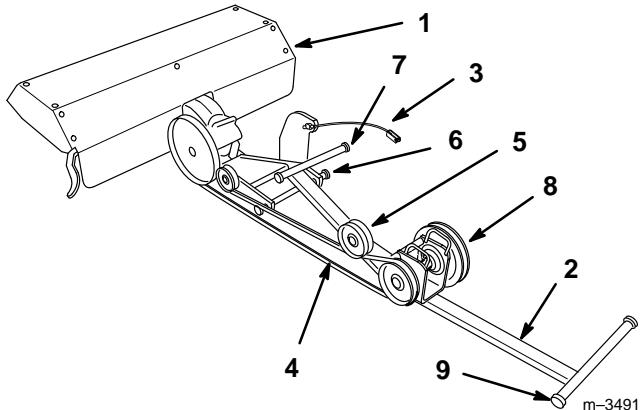

Figure 10
- Place the jack shaft assembly between the tractor wheels and oriented with the tiller as shown (Fig. 10).
- Install the tiller belt (short belt) between the tiller and jack shaft assembly (Fig. 10). Route the belt under the idler pulleys and over the jack shaft pulley.
14. Route the PTO drive belt around the jack shaft's PTO pulley (Fig. 10), then through the center of the pulley box between the two pulleys.
6. Release the tension on the tiller belt by lifting up on the idler pulley (Fig. 10). Remove the belt from the pulleys.